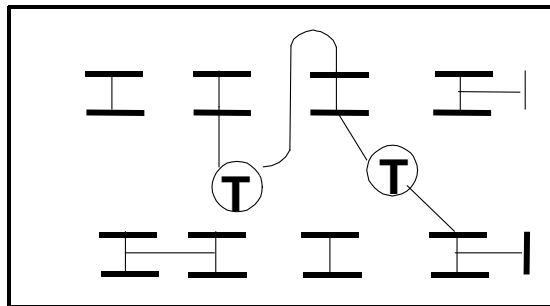

Fig. 9 Wired for 220VAC Operation
- Step 1: Wire Power Transformer Terminal block as illustrated in Figure 9.